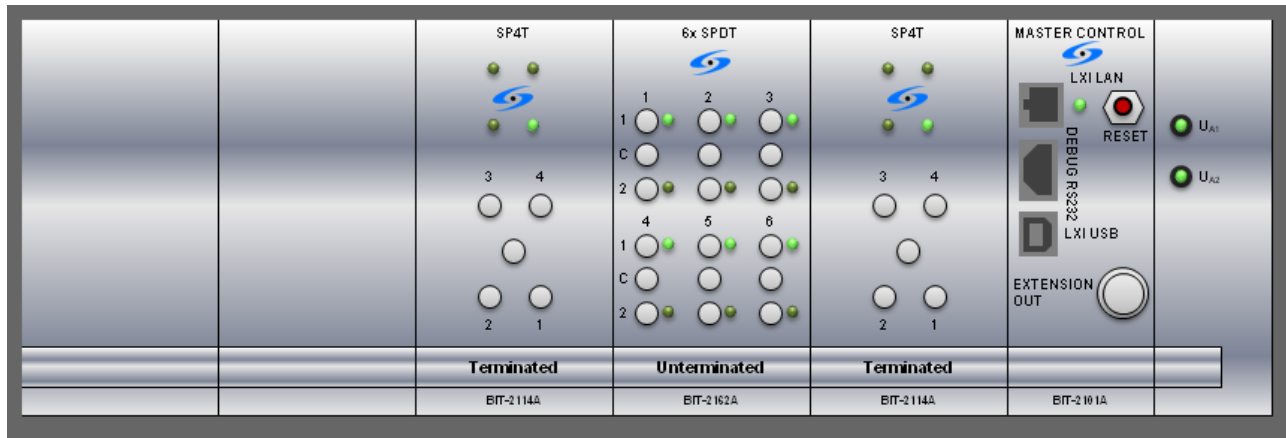

Figure 3 BitifEye BIT-2100 switch with two SP4T modules and one 6x SPDT module
- 1 Make sure the BIT-2100 switch is loaded with two SP4T (or SP6T) switch modules and one 6x SPDT module. The SP4T (or SP6T) modules belong in slots 3 and 5, and the 6x SPDT module belongs in slot 4. See Figure 3.